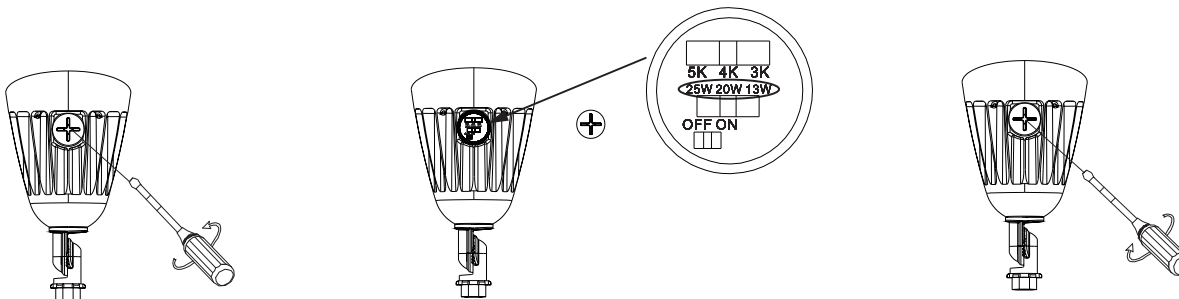

Fig. 6
- Step 2: Adjust the integrated switch for CCT and wattage to the desired setting. (Fig 6)